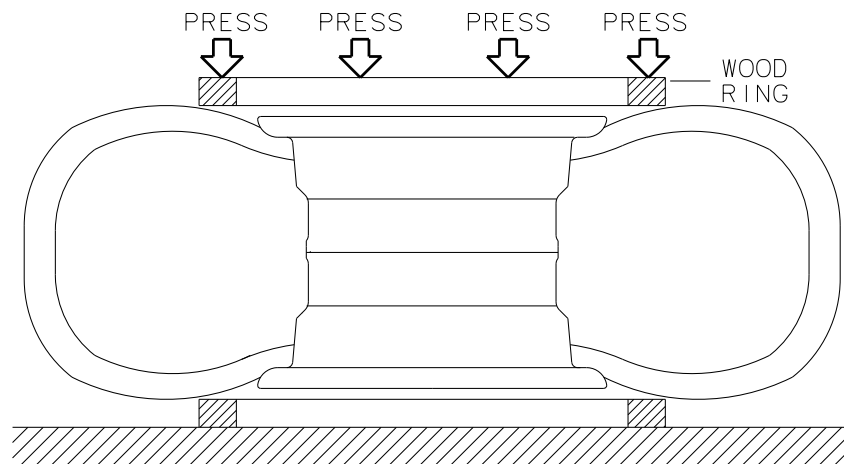

Figure 306 - Tire Removal
- (1) Tire Removal
- (b) Separate tire beads from wheel halves, using a bead breaker or by applying pressure in even increments around the entire sidewall of the tire as close to the tire beads as possible. Suggestion: Fabricate two each rings from a substantially thick piece of plywood. The inside diameter should be slightly larger than the wheel rim outside diameter. Sandwich the wheel/tire between the two rings and apply pressure to the top ring. The tube well area of the wheel is tapered and once the bead is broken the tire should slide progressively easier. Ref. Figure 306.